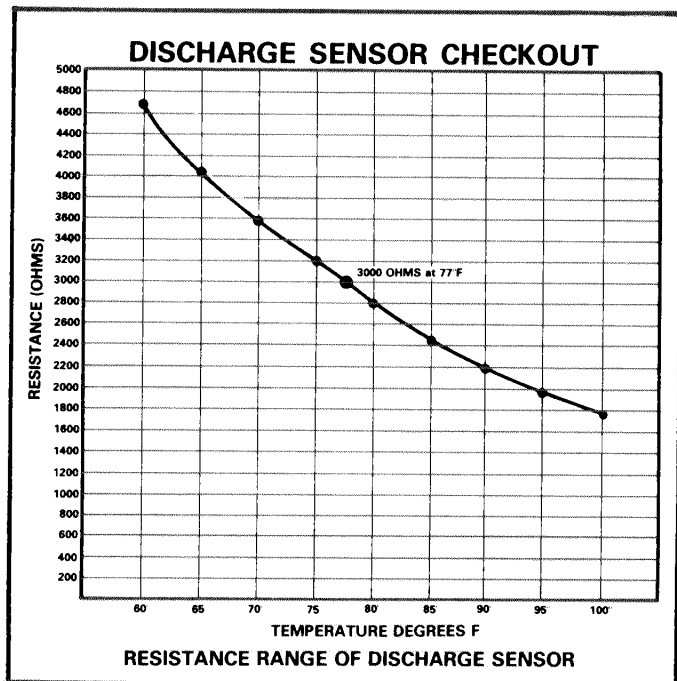

FIGURE 23
- 4 - Meter reading depends on the temperature at the sensor. Discharge sensor resistance should be between 1500 to 4500 ohms. For resistance readings at different temperatures, see Figure 23.